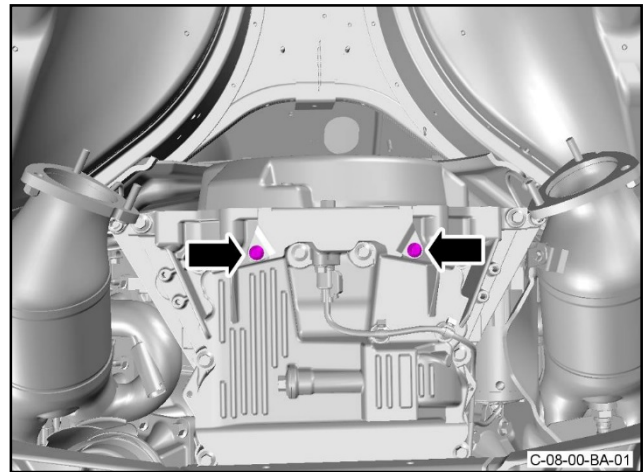

Figure 1
2. Remove the two screws that attach the cover plate to the engine adjacent to the flywheel housing (refer to Figure 1).